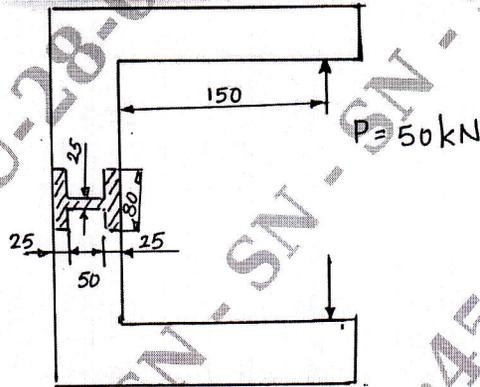

Fig.Q1(b)
b. Determine the extreme fibre stresses at the critical section of the machine member loaded as shown in Fig.Q1(b). Also show the distribution of stresses at this section. (12 Marks)